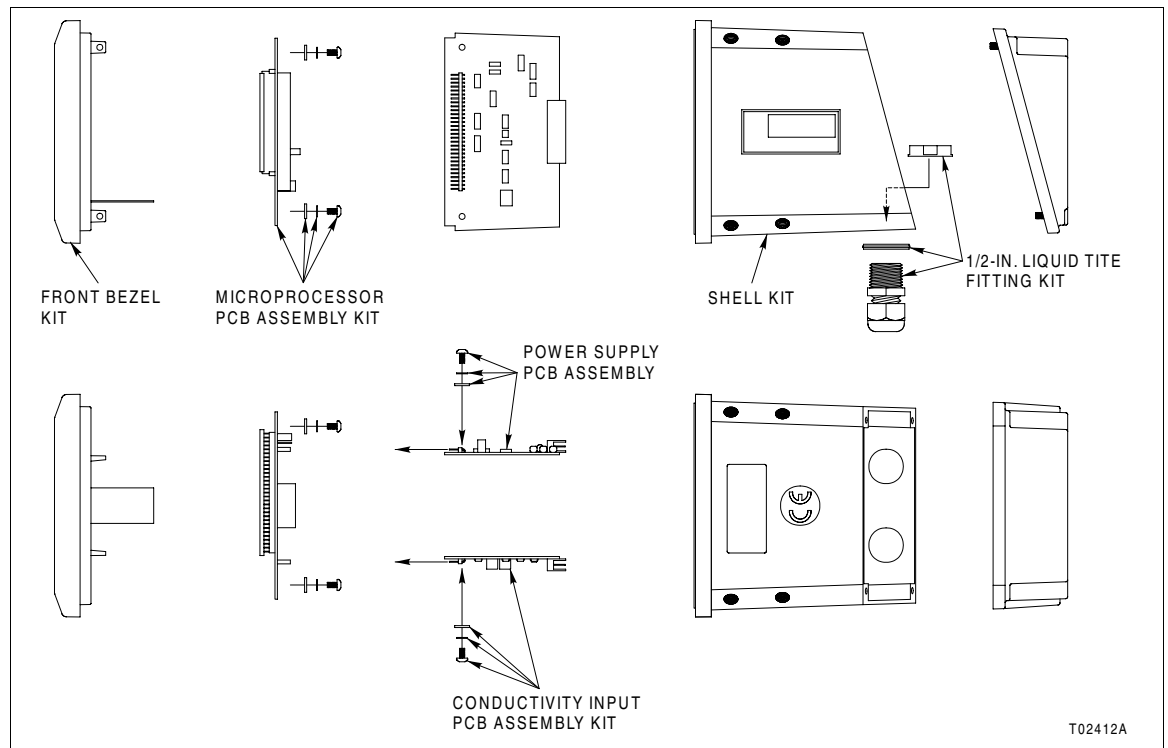

Figure PR50-1. Conductivity Input PCB Removal
1. Use the Phillips screwdriver to remove the two screws that retain the conductivity input PCB (Fig. PR50-1).